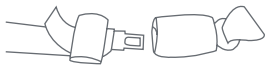

Fig. 41-2
- A **manually adjusted** lap seat belt is tightened by pulling on the free end of the seat belt while pushing down hard on the Safety Seat or Base. If you experience difficulty tightening the seat belt, unbuckle the seat belt, tighten the seat belt a small amount and re-buckle the seat belt. Repeat this procedure until the seat belt is very tight around the Safety Seat or base. Check that the seat belt remains very tight around the Safety Seat or base (Fig. 41-2).